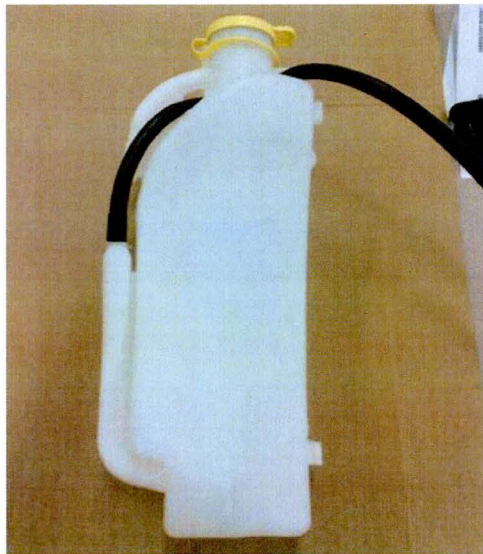

Fig. 3 Coolant Bottle
6. Install the coolant overflow hose onto the coolant recovery bottle until it reaches the stop bead on the bottle (Fig. 3).